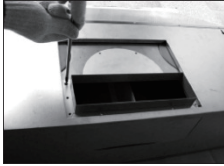

Fig. 3d
- f. Secure both plates with the screws provided. **(Fig. 3d)**